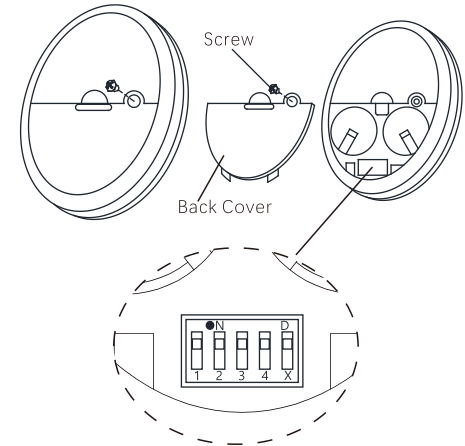

Fig. 20
## INSTALLING THE TRANSMITTER BATTERIES (Fig. 20)
**Step 1.** Remove the back cover of the transmitter and safety screw.(Fig.20) Install two CR2032 3V batteries (with the + side facing up). Note: To prevent damage to the transmitter, remove the batteries if not in use for long periods of time (several months).
## SETTING THE "1-4" FREQUENCY DIP SWITCHES (Fig.20)
## SETTING THE "D/X" LIGHT FUNCTION DIP SWITCH (Fig. 20)